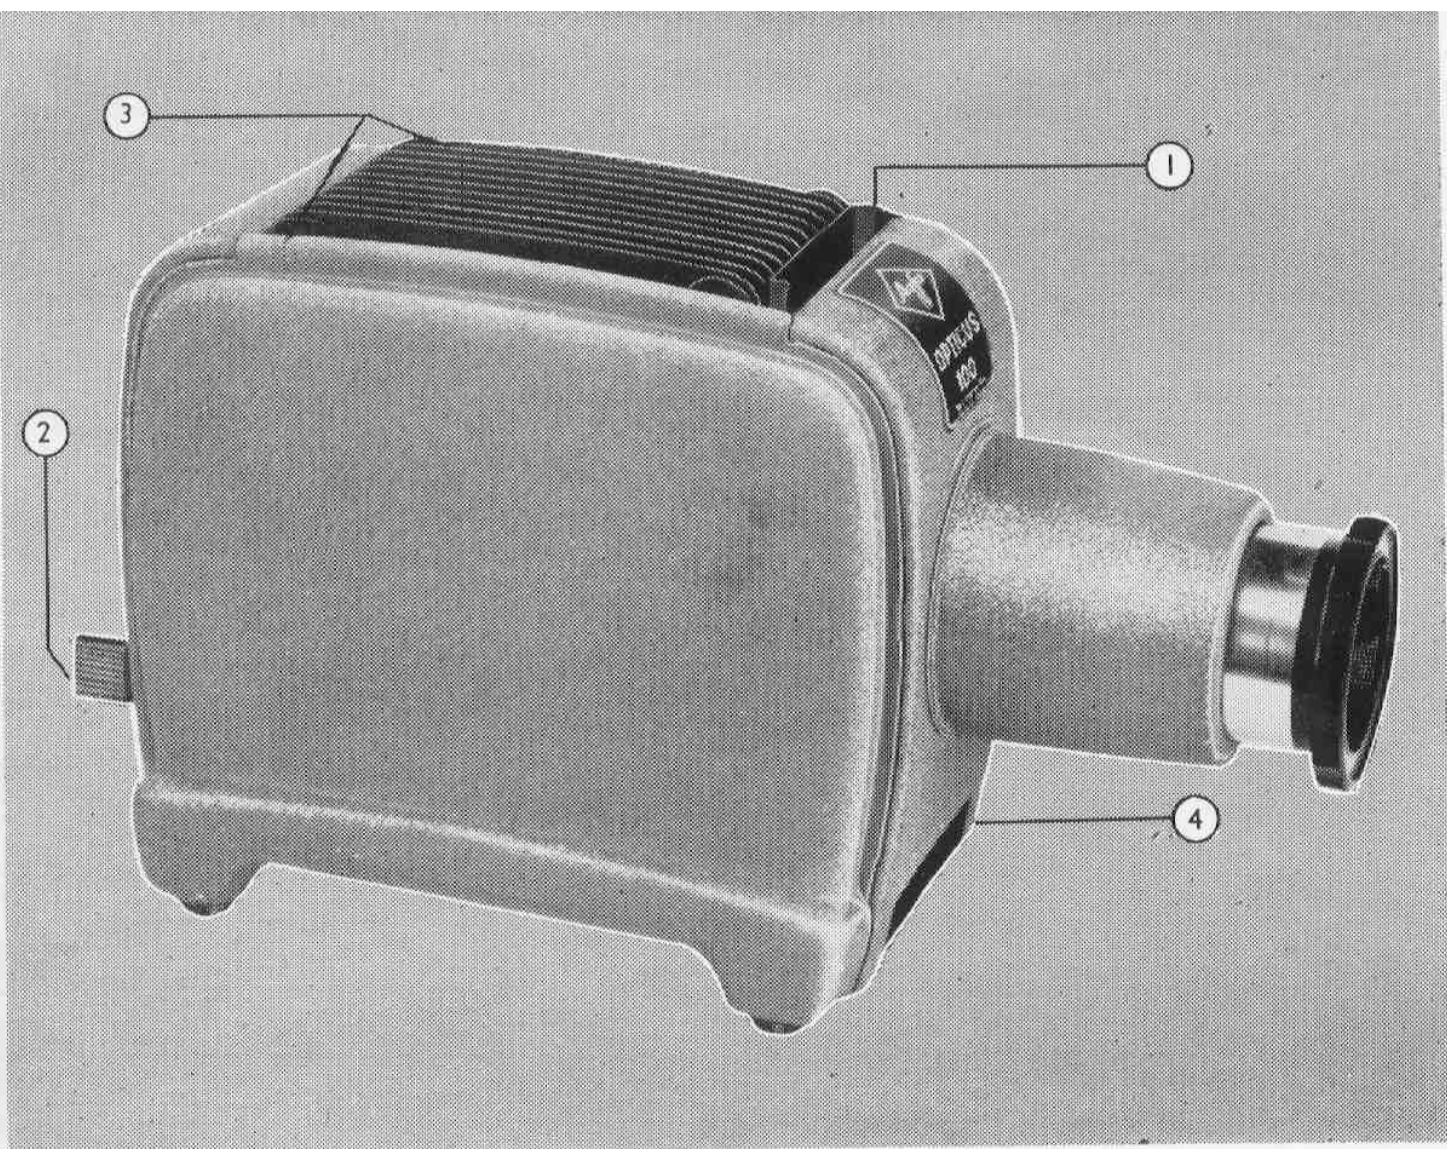

Fig. 1.
1. Grasp the ventilator top by the two protruding lugs 3, Fig. 1, and swing back. The projection lamp (or lamp holder) will now be visible.
Manipulation is simplicity itself: The plug is inserted into a supply socket, and the first slide placed in the feed channel 1, Fig. 1, where it will remain projecting. On depressing the slide change lever 2, Fig. 1, the slide will slip down the channel into the projection gate, where its image on the screen can be brought into sharp focus by rotating the milled collar of the projection lens mount, and by pushing in or drawing out the lens tube. Before this final adjustment is made the distance of the screen should of course have been checked to ensure that both vertical and horizontal pictures are accommodated within it.